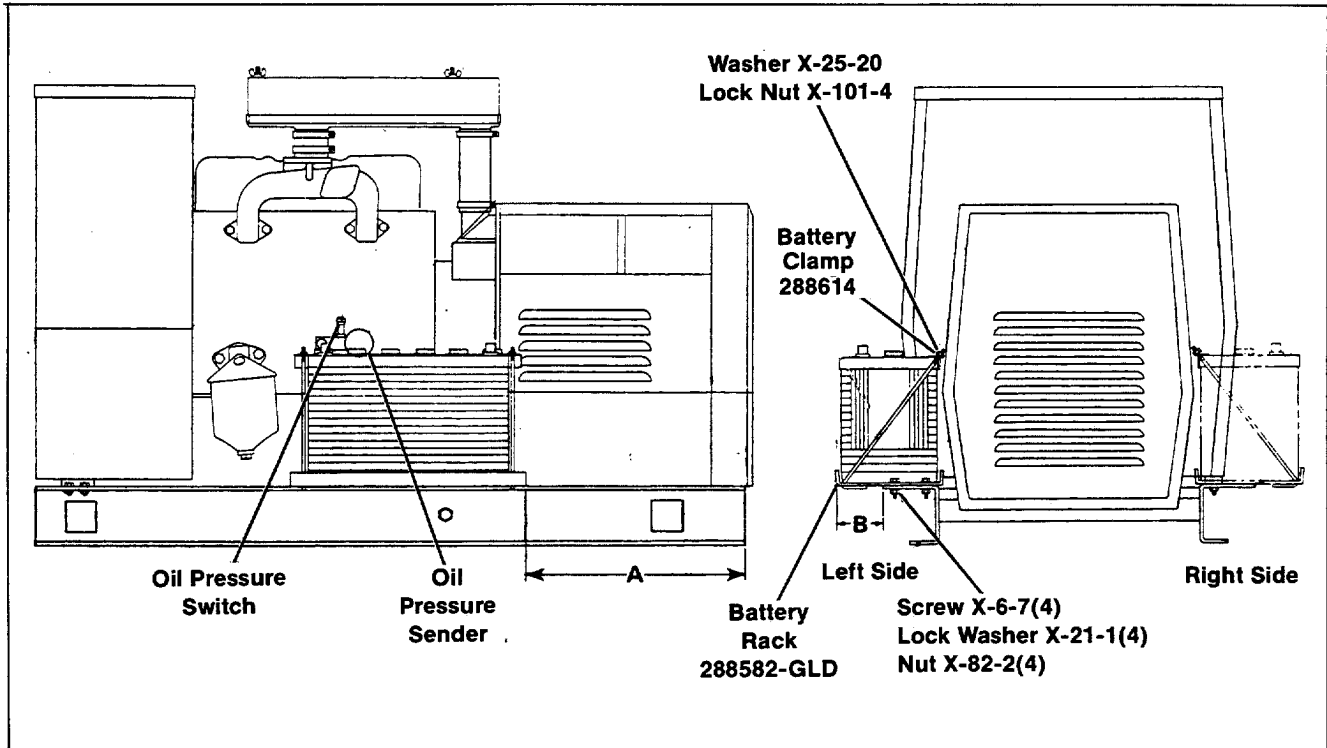

Figure 1. Mounting Battery Rack
- If unit is a 15ROY, exchange the position of the oil pressure switch (271622) and the oil pressure sender (264390). See Figure 1 for new locations.
- Measure distance from radiator end as shown in Figure 1. See Table 1 for dimensions and location.